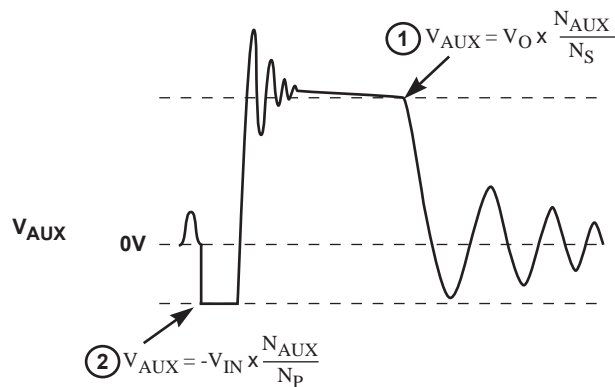

Figure 10.3: Auxiliary Voltage Waveforms
and reflects the output voltage as shown in Figure 10.3.
During constant current (CC) operation, the output voltage regulation is not guaranteed. The point 1 in Figure 10.3, which reflects output voltage is not regulated to $V_{SENSE(NOM)}$ (i.e. 1.533V). For LED applications, where current regulation is critical, design needs to ensure the point 1 is well below $V_{SENSE(NOM)}$ with some margin.
The CR1510 also incorporates constant voltage (CV) operation, where output voltage maintains constant by regulating the point 1 indicated in Figure 10.3 to $V_{SENSE(NOM)}$ (1.533V typically). During constant voltage operation, the CR1510 may operate in pulse-width-modulation (PWM) mode or pulse-frequency-modulation (PFM) mode, depending on load conditions. In particular, the CR1510 allows the switching frequency to drop as low as 1.8kHz at PFM mode, which helps system stay regulated at very light load condition, thus achieving <30mW no-load power consumption and meanwhile improving active operating efficiency by using large pre-load resistor.
The secondary maximum output DC voltage is limited by the CR1510. When the V_{SENSE} signal exceeds the output OVP threshold at point 1 (as shown in Figure 10.3), the CR1510 shuts down.
LED short fault is detected via V_{SENSE} pin. When the point 1 in Figure 10.3 is below 115mV for several consecutive cycles, the CR1510 shuts down.